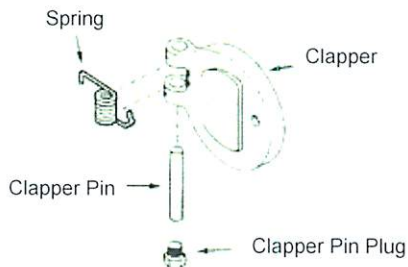

Figure 5b
3. Take the clapper pin with the extension screw and insert the pin into the spring and support hangers (see Figure 5b)